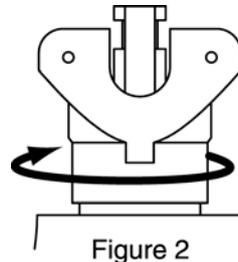

Figure 2
1. Rotate crimping head adapter fully -- clockwise (see Figure 2).